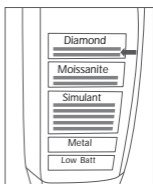

Figure 7b
7. During calibration, the Simulant, Moissanite and Diamond Indicator lights will each gradually light up, accompanied by rhythmic beeping, with Diamond LED lights indicating the ending phase of the calibration, as shown in Figure 7b.